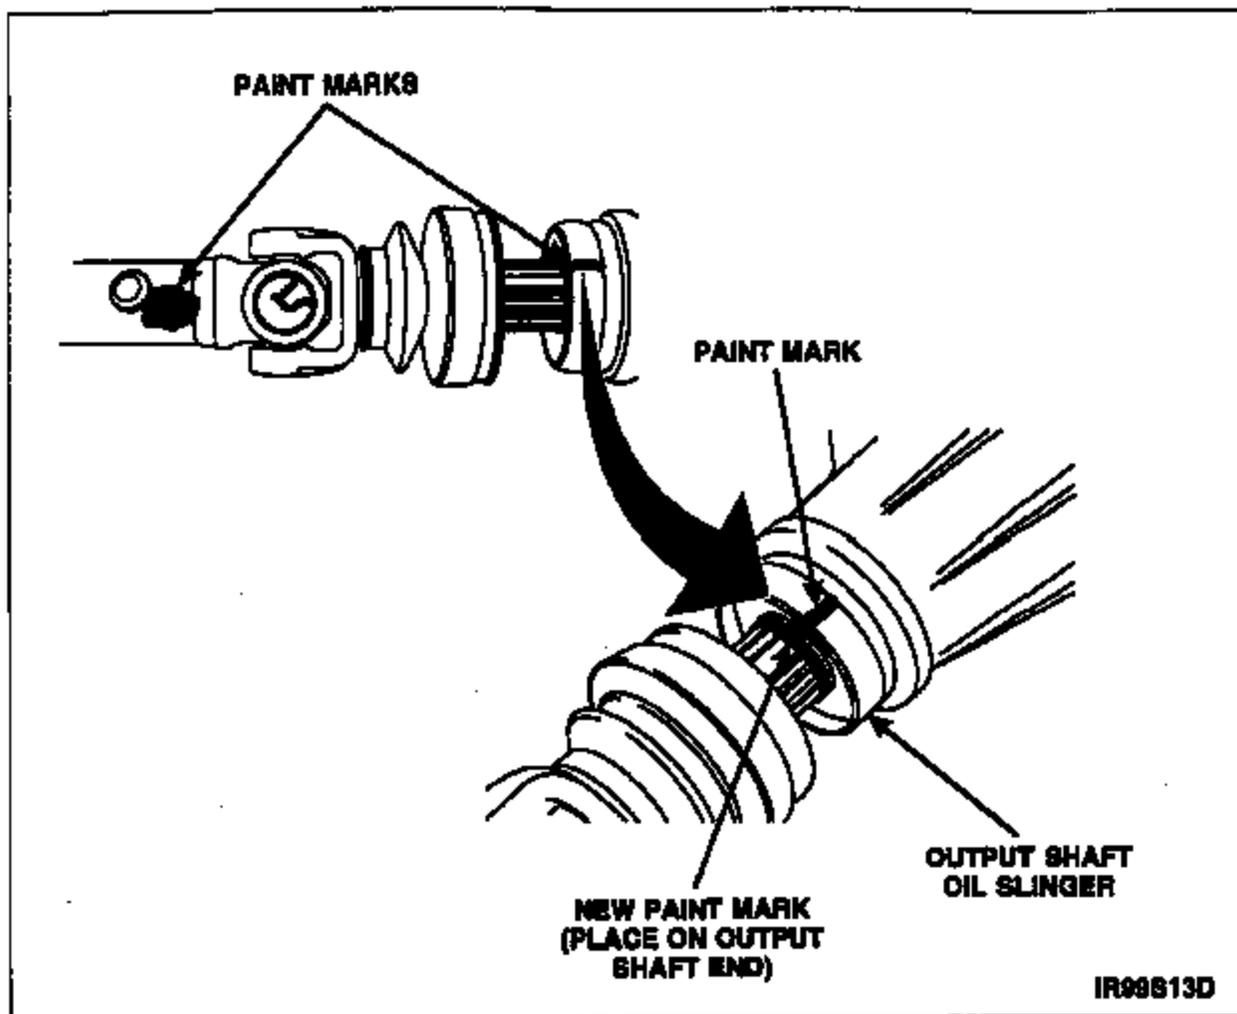

FIGURE 4
- Partially slide the driveshaft off of the output shaft spline. Refer to Figure 4.
- Using indexing paint marks on the driveshaft and the output shaft oil slinger as a guide, place an indexing paint mark on the output shaft end. See Figure 4.